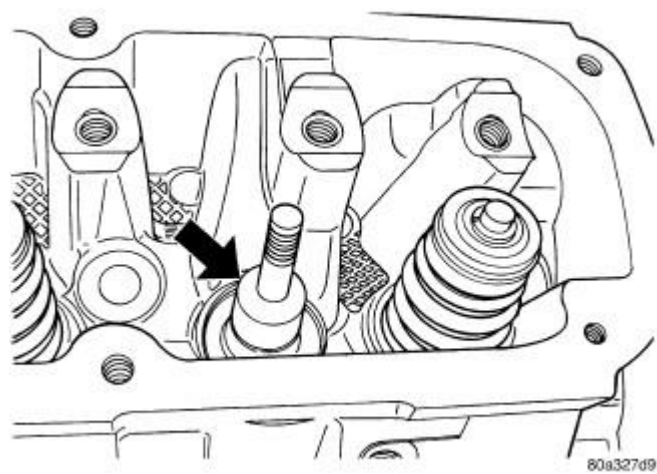

Fig. 97: Valve Stem Seal
3. Install new seals on all valve stems and over valve guides Install valve springs and valve retainers. Refer to Fig. 97.